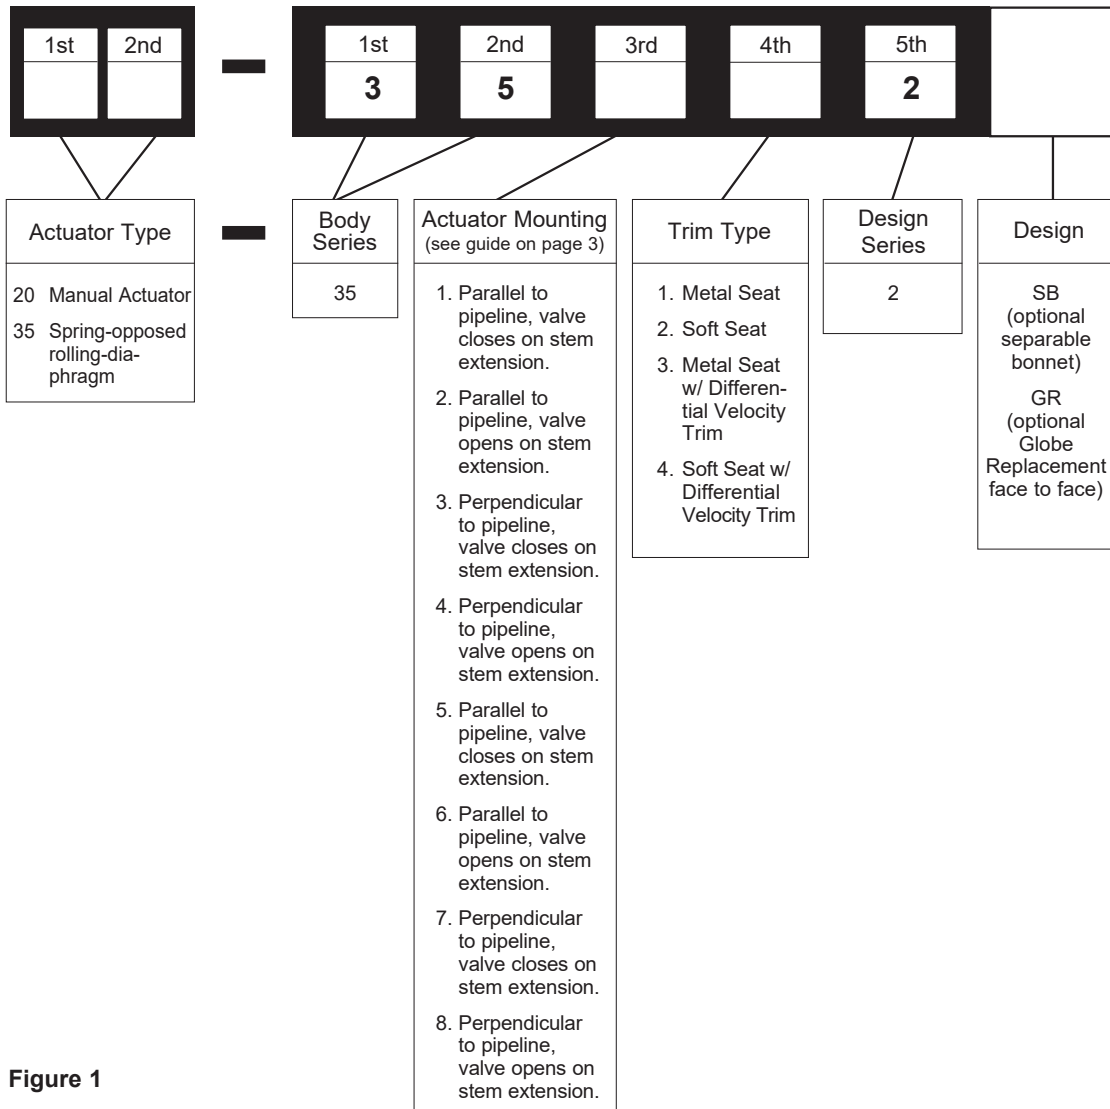

Figure 1
ratings, and pneumatic actuators. The model number, size and rating of the valve are shown on the serial plate. Refer to Figure 1 to identify the valve model.
- A. Check the model number on the serial plate (56) against the numbering System described in Figure 1 to determine the valve mode.